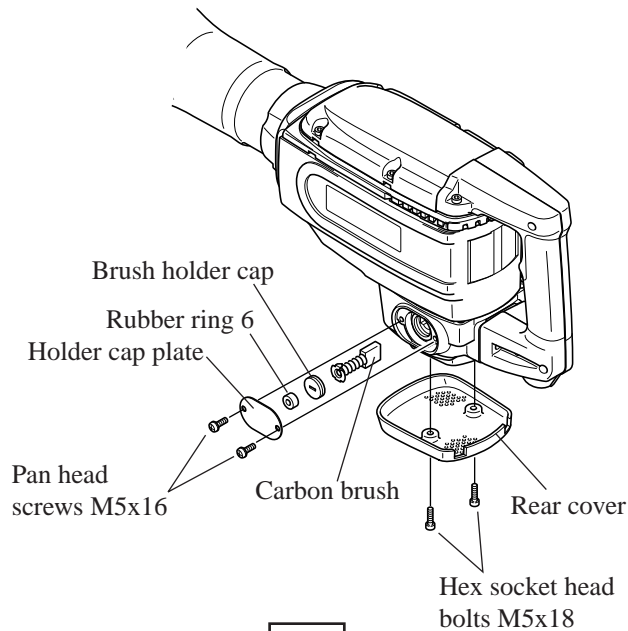

Fig. 2
- (1) Remove holder cap plate by unscrewing pan head screw M5x16. Remove rubber ring 6, brush holder cap and carbon brushes. See Fig. 2.